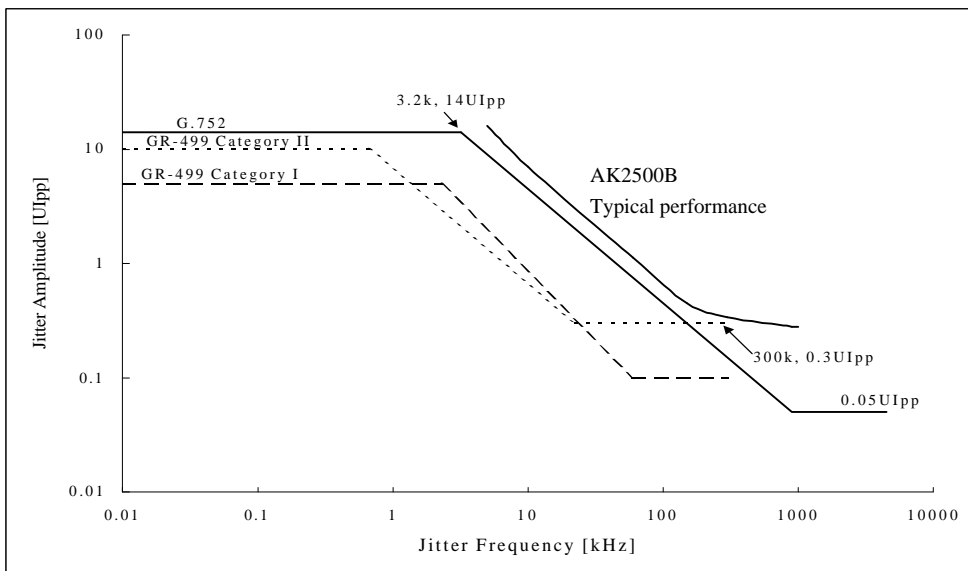

Fig. 3 Jitter Tolerance(STS-1)
5. Typical performance is shown in Fig. 3.